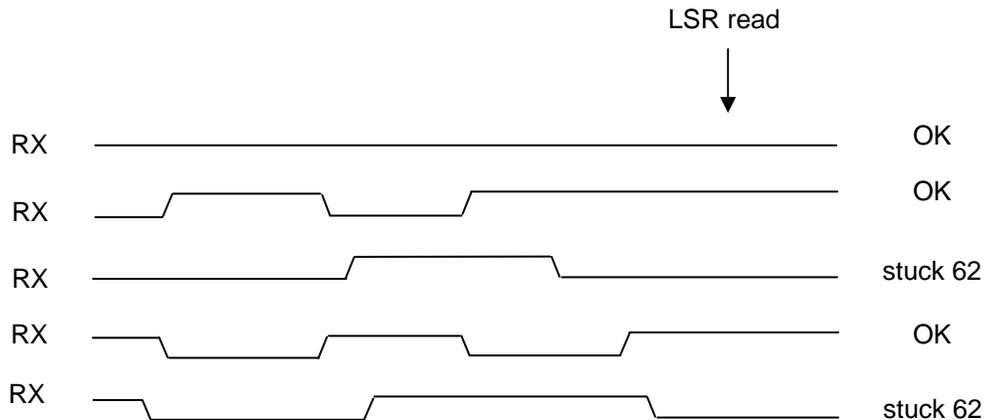

Figure 1.
- Problem:** The TL16C754B UART can present a stuck interrupt caused by the LSR being stuck at 62 (overrun indication). The conditions are non-FIFO mode (FCR0=0), LSR error interrupts enabled (IER2=1), and the RX input held low for an extended period. Note that the marking state for RX is high, so this last condition is usually only seen at startup when the RX source has not yet stabilized. Since the device powers up in non-FIFO mode, the problem can occur before FIFO mode has had a chance to be enabled. Figure 1 illustrates when the problem can occur. Each low time on the RX signal is relatively long, and since the divisor registers power up unknown, it is impossible to say with certainty if the low times are sufficient to generate a break character. However, assume that they are. The problem occurs only if more than one break character is detected, which causes an overrun error since the device is in non-FIFO mode. Normally reading the LSR clears the overrun interrupt, but if the RX signal is still low when the LSR is read, the overrun condition will persist erroneously. Once the problem has occurred, changing from non-FIFO to FIFO mode will not clear it out until the RX source is stable.